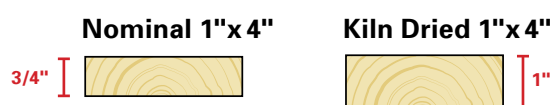

Fig. 6
- 1" x 4" Nominal strapping is allowed. **(Minimum 3/4" thick, See Figure 6)**
- 1" x 4" Kiln Dried strapping is mandatory. **(Minimum 1" thick, See Figure 6)**